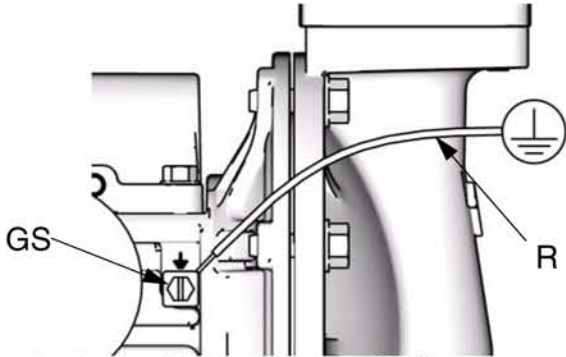

FIG. 1. Grounding screw and wire
Pump: See FIG. 1. Loosen the grounding screw (GS). Insert one end of a 12 ga. minimum ground wire (R) behind the grounding screw and tighten the screw securely. Connect the clamp end of the ground wire to a true earth ground.